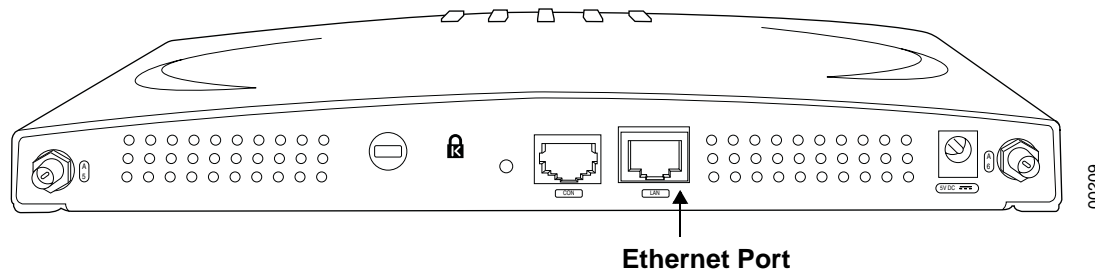

Figure 7: Connect AP300 to LAN
6. Connect one end of the Ethernet cable to the AP300 Ethernet port shown in Figure 7.
7. Either connect an external power supply to the power connector and plug it into the wall, or connect an appropriate PoE power device to the Ethernet port (see Figure 7).